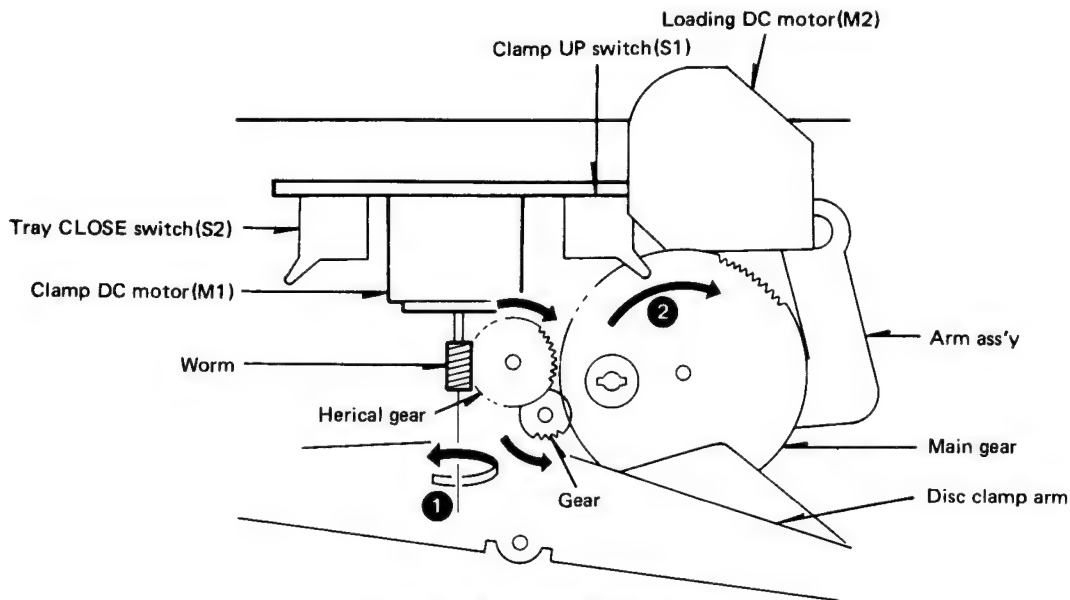

Fig. 2 Tray OPEN operation (1)
At first, the clamp DC motor (M1) thus rotates in the direction of arrow (1). Further, the main gear rotates in the direction of arrow (2) by an intermediate gear (Figure 2).